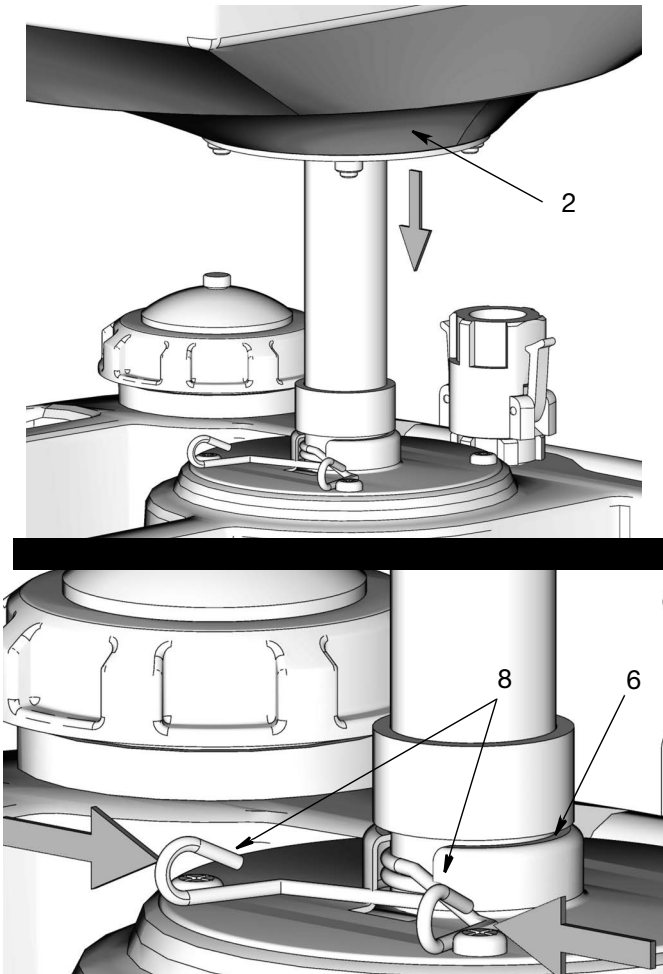

FIG. 4
When compressing the torsion spring (8) do not allow the funnel assembly (2) to freely drop. This could result in your fingers or hand being pinched between the funnel assembly (2) and funnel collar (6). Always support the funnel with one hand whenever you compress the torsion spring (8) to change the funnel assembly position. See FIG. 4.
1. When the collection container is in the correct location for draining, set the funnel assembly (2) height.
2. Squeeze the torsion spring (8) with one hand while you use your other hand to raise or lower the funnel assembly (2) into the desired position.